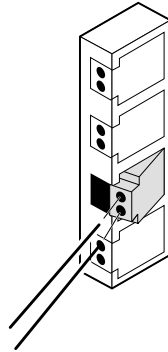

Figure 8. Attaching the RT Wires
- 3 For the FGND and Subscriber Line wires, pivot the IDC connector upward, then insert the wire pair through the tip and ring holes (see Figure 8). Each wire entry hole accepts one unstripped solid copper wire 22-24 American Wire Gauge (AWG) with a maximum insulation diameter of 1.52 mm.